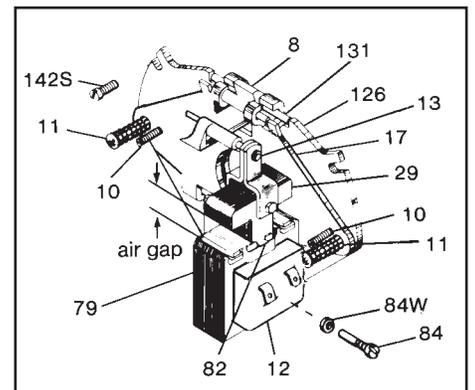

Figure 8
**Note 2:** Both adjustment screws (11), Figure 8, must be turned equal amounts counterclockwise to decrease torque.
#### A. Adjustment for friction disc wear (see Table 2 and Figure 8)
1. Refer to Figures 8 and 9. Insert screwdriver between support plate (126) and lever arm (17). Wedge apart and remove as an assembly bearing pin (26), bearing (6), pin (131), solenoid lever (8) connected to solenoid link (13) and plunger (29).